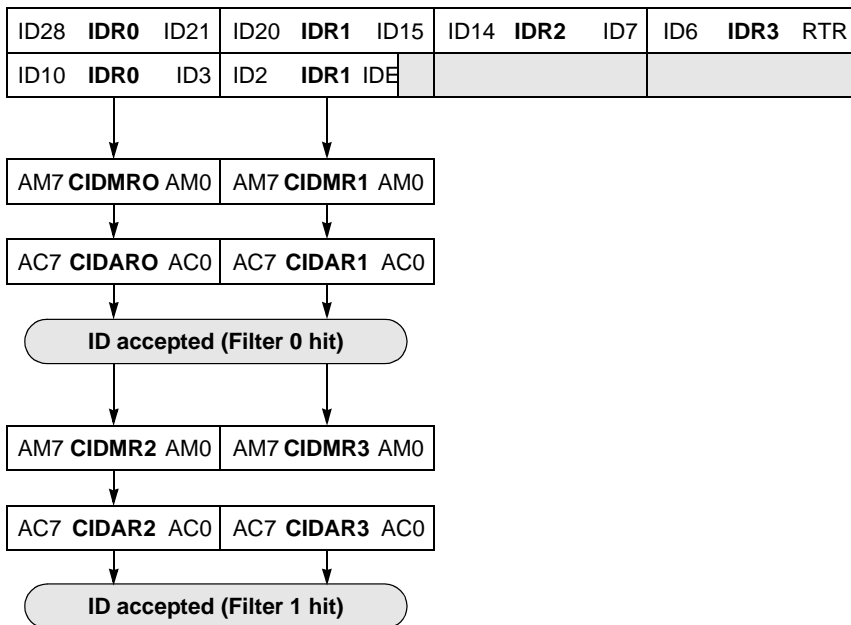

Figure 17-4. 16-bit Maskable Acceptance Filters
- b) the 11 bits of the standard identifier, the RTR and IDE bits of CAN 2.0A/B messages.Figure 17-4 shows how the first 32-bit filter bank (CIDAR0–3, CIDMR0–3) produces filter 0 and 1 hits. Similarly, the second filter bank (CIDAR4–7, CIDMR4–7) produces filter 2 and 3 hits.